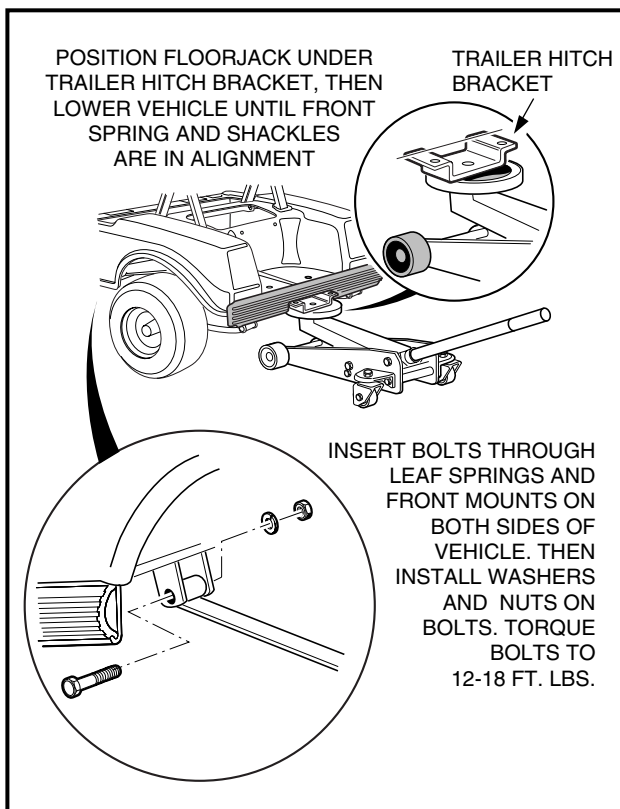

FIGURE 10-92
13. After the jackstands are removed, lower the vehicle to approximately its normal height. Then position the leaf springs in the front spring mounts and install the bolts, washers, and nuts (**Figure 10-92**).